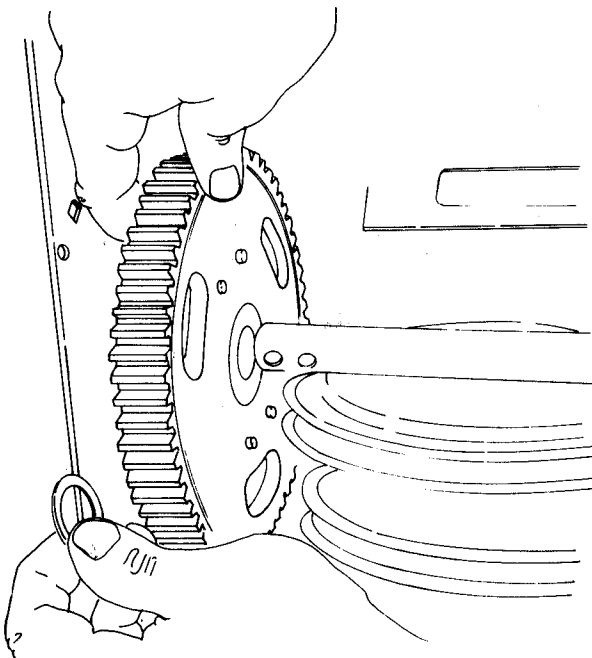

FIGURE 3.30 — PULLING DRIVE GEAR
**STEP 2:** Hold the drive gear to prevent it from falling then slide the axle out toward the right side until the end clears the gear. If the axle does not have to be replaced, install the replacement gear and thrust washer (between gear and frame — Figure 3.30) then slide the axle back through to the left. Install the roll pin in the axle on the right side to complete the gear replacement procedure.